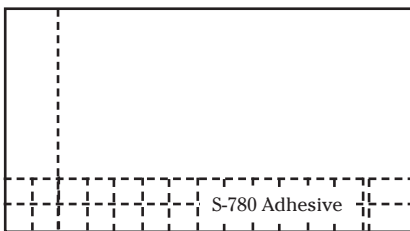

Fig. 2
2. Apply the S-780 Adhesive in two- or three-foot bands (Fig. 2) using a 1/16" x 1/16" x 1/16" V notch trowel. Do not apply more adhesive than you can cover within 20 minutes. Allowing no open time and fitting the border tile tightly will reduce tile shifting and adhesive oozing. Border tiles should be at least 6 inches or larger. **DO NOT** allow the adhesive to dry completely. (Fig. 2).